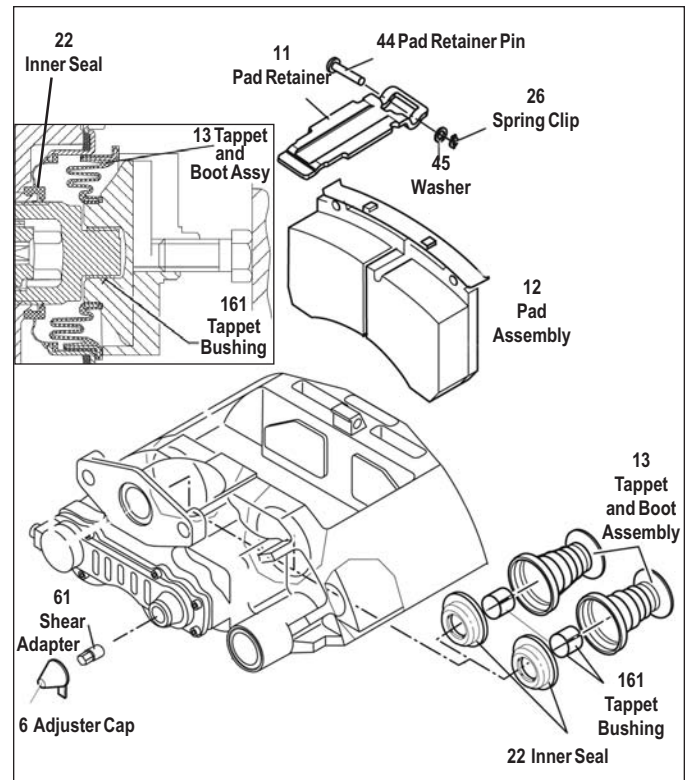

FIGURE 46 - ADB EXPLODED AND SECTION VIEWS
5.4.5 Re-installation. Before installing the brake chamber, the actuator flange (See Figure 46, arrow "C") must be cleaned and inspected. Consult the vehicle manual. The spherical cup in the lever (19) must be greased with white grease (Part No. II14525 or K021964). Add grease to the rubber gasket on the chamber.